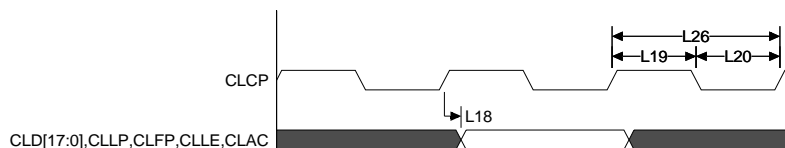

Figure 134: LCD output timing
- 7 Note that data is sampled by the LCD panel on the falling edge of the CLCP in Figure 134, "LCD output timing," on page 771). If the polarity of CLCP is inverted, this parameter is relative to CLCP falling instead.